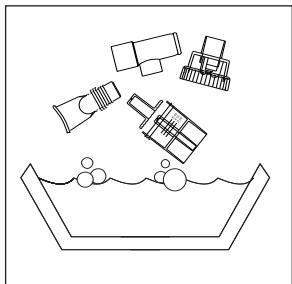

Figure 9
1. Using a clean container or bowl, soak items in three parts hot water to one part white vinegar for 30 minutes (Fig. 9) OR use a medical bacterial-germical disinfectant available through your provider. Be sure to follow manufacturer's instructions carefully.